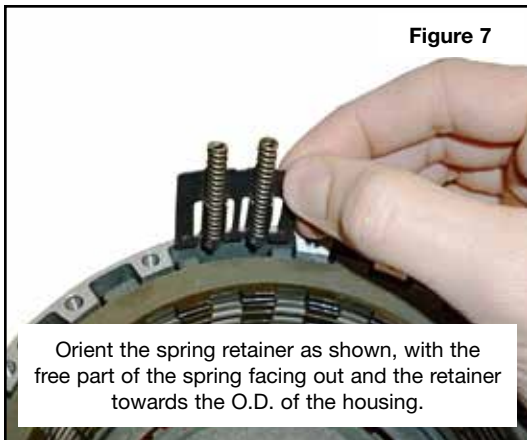

Figure 7
- f. Slide the spring retainers into the housing, with springs and retainers oriented as shown (Figure 7).